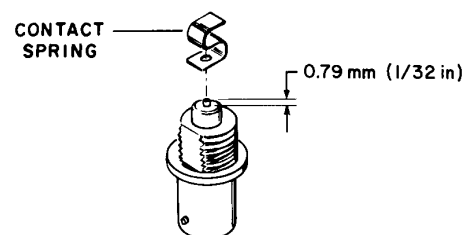
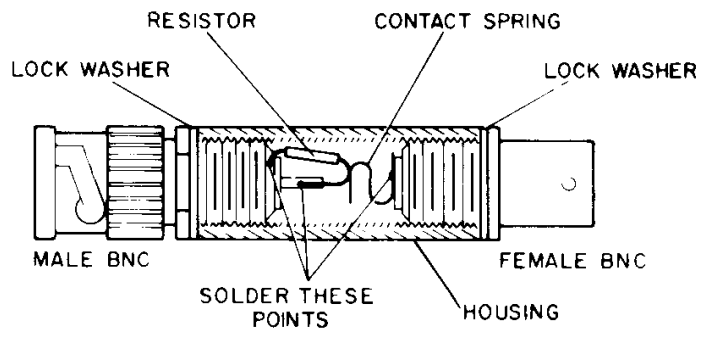

Figure 2 *Cutting Center Conductor Lead to Accommodate Contact Spring*
Figure 3 Load Resistor, Cutaway View
Parts referred to in the following procedures are identified in Figure 2 on page 9 and Figure 3 on page 10.
1. Remove the female BNC connector. Refer to Figure 3 for parts identification.